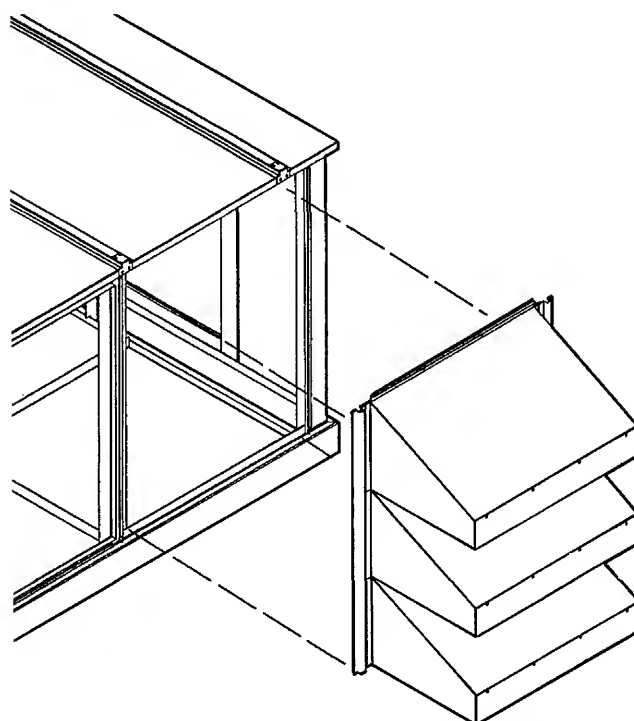

Fig. 11 — Economizer Hood Installation
14. See Fig. 11 and place economizer hood assembly over outdoor-air opening.